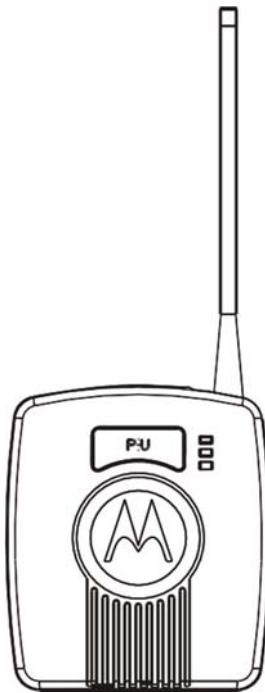

Figure 2
The Piccolo Interface Unit (PIU; see Figure 2) is connected to the IRRInet Field Unit (FU) via RS232 or RS485 serial ports.